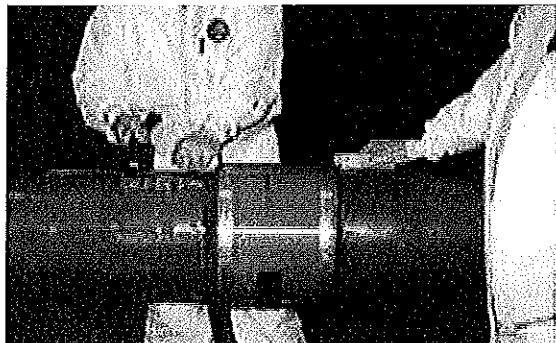

Figure 19
- 4.17 Perform final alignment of the Clock Spring® sleeve with the wooden blocks (Figure 19).